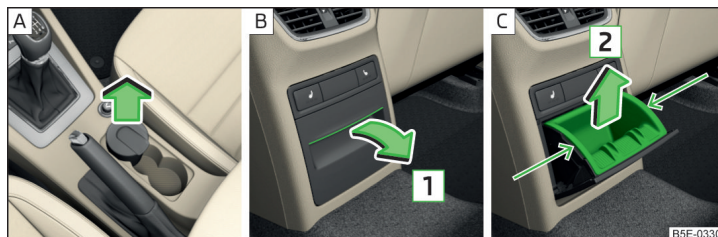

Fig. 89 Remove front ashtray / open rear ashtray / remove rear ashtray insert
- Pull out the ashtray in the direction of the arrow » Fig. 89 - **A**.
- Pull the upper part of the well and open the ashtray in the direction of arrow **1** » Fig. 89 - **B**.
- Grasp the insert in the area marked with the arrows and remove it in the direction of arrow **2** » Fig. 89 - **C**.